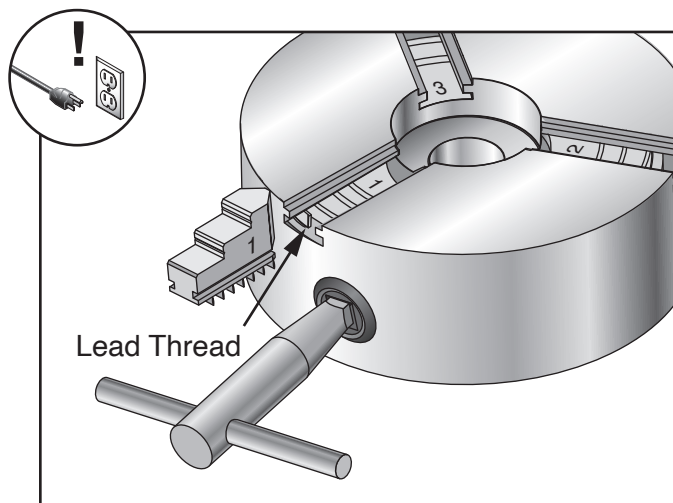

Figure 41. Lead thread on scroll gear.
6. Rotate chuck key clockwise until you see tip of outer scroll-gear lead thread about to enter #1 jaw guide (see **Figure 41**).